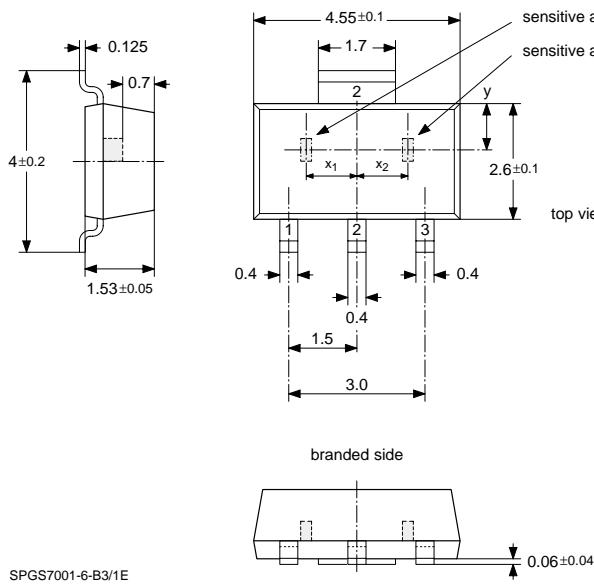
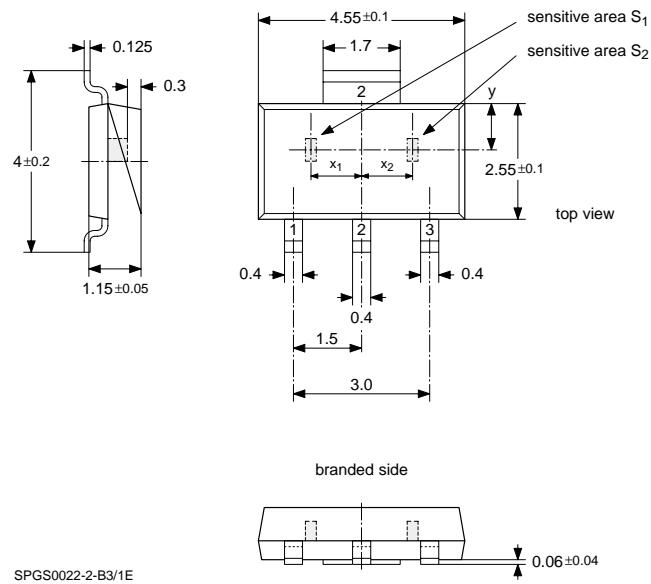
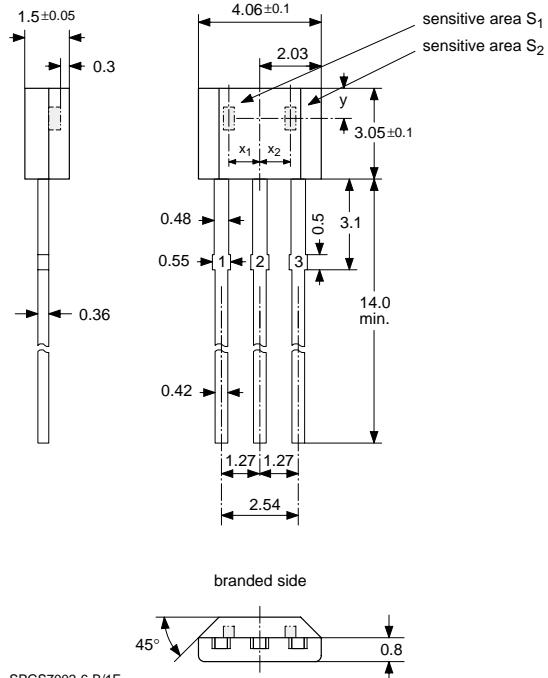

Fig. 4:
Fig. 6:
Fig. 5:
- Rotating a multi-pole-ring in front of the branded side of the package (see Fig. 4, Fig. 5, and Fig. 6).